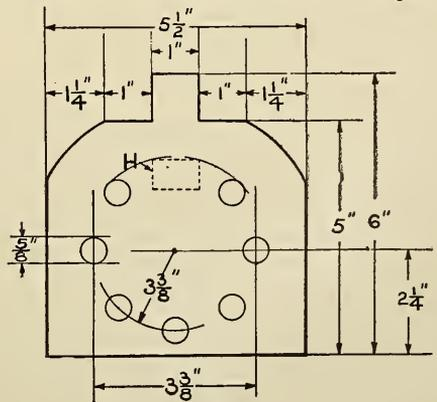
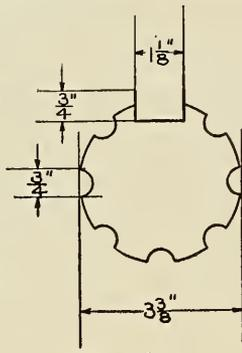

FIG. 60
FIG. 61
oak two pieces of dimensions given in Fig. 60 and drill the holes as indicated. Cut two other pieces of dimensions in Fig. 61 from some $\frac{1}{4}$ or $\frac{3}{8}$ -inch wood. Now obtain seven round pieces of wood $\frac{5}{8}$ inch in diameter and 16 inches long. Wrap around each of these pieces two layers of asbestos paper. This paper should not come nearer than $\frac{7}{8}$ inch from the ends of the pieces of wood. One end of all of these pieces can now be glued in the holes of one of the pieces shown in Fig. 60. Slip the two pieces shown in Fig. 61 down inside of the asbestos covered strips and then glue the other ends into the holes in the second end-piece. The two pieces inside of the cage just formed should be so placed that the distance between the two end pieces is divided into three equal parts. A small finishing nail may be driven, and counter sunk through the round wooden rods into these separators after they are put in place to hold them. Cut from some oak a piece
one inch wide, $\frac{5}{8}$ inch thick and $12\frac{1}{4}$ inches long. Cover this piece with asbestos paper as you did the round pieces except the paper should go to the end of the piece. This piece should be fastened at the point marked (H) Fig. 60, by means of two screws that pass through the end-pieces from the outside.